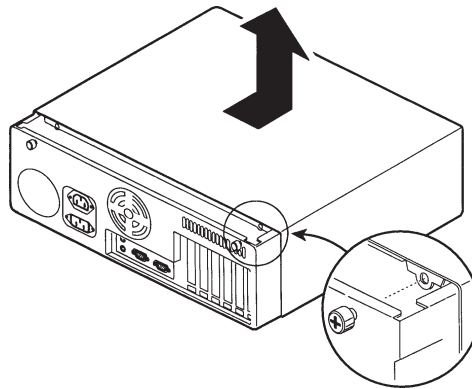

Figure 2-1. Removing the cover.
- 2) **Loosen the cover screws (Figure 2-1).**
- 3) **Remove the cover (Figure 2-1).**